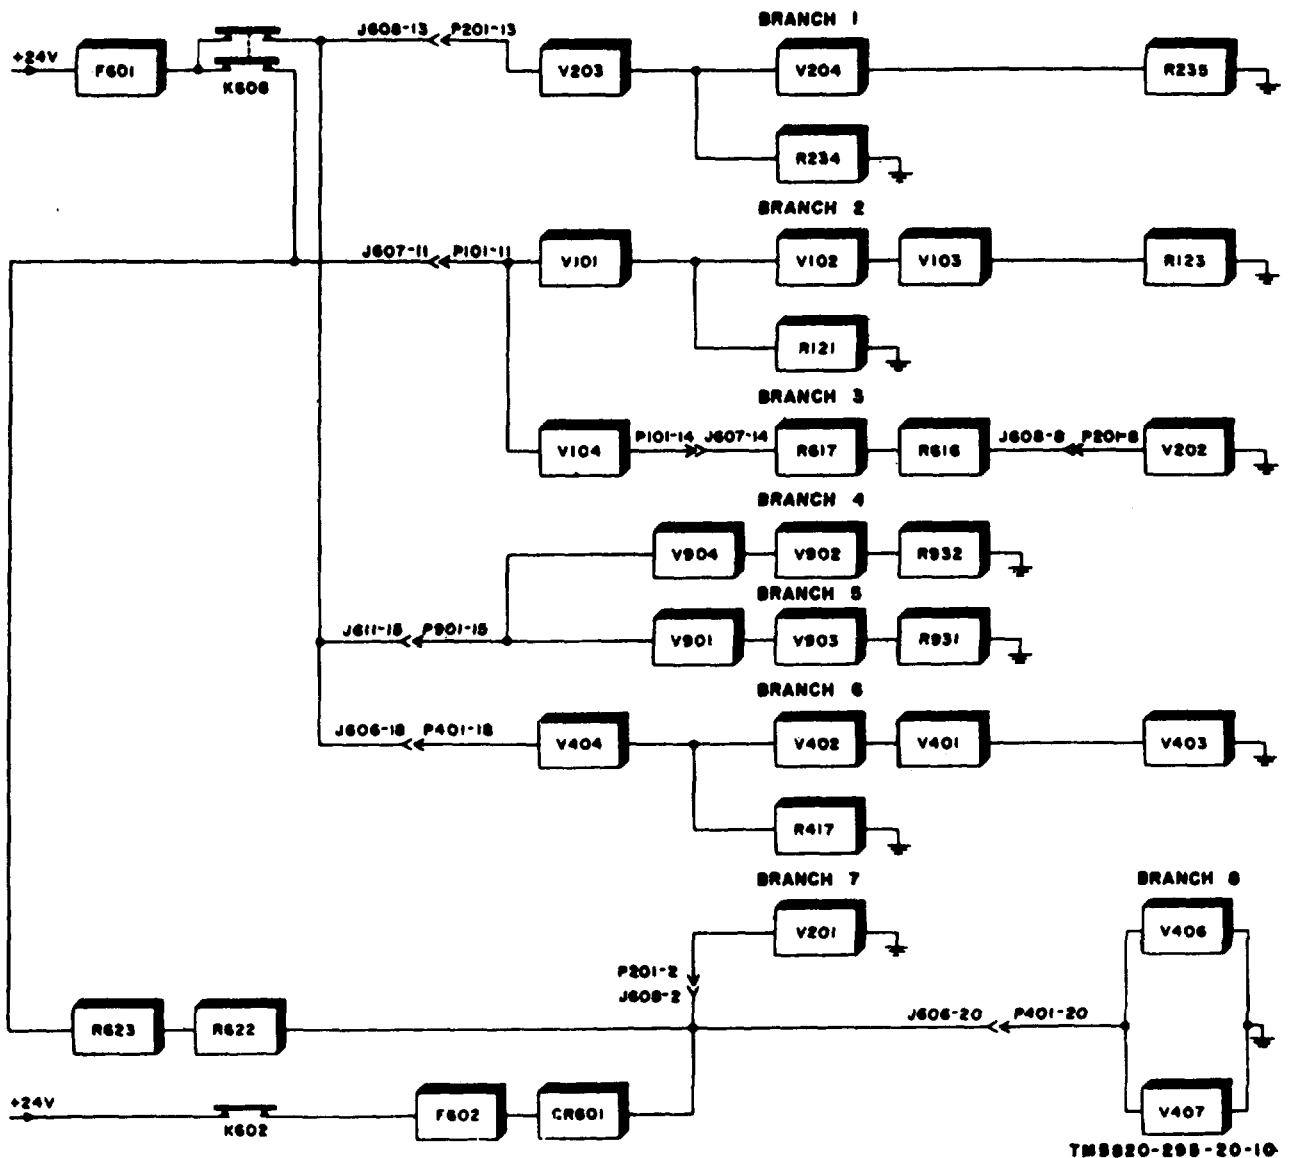

Figure 10. Filament circuits of transmitter, simplified block diagram.
e. *Transmitter Filament Circuits* (fig. 10). When visually inspecting the tubes for burned-out filaments, it may be discovered that more than one tube is not lighted. Eight main filament branches are fed from the 24-volt supply. If V208 is open, branch No. 1 will be entirely inoperative. If V204 is open, resistor R284 will limit the current through V208 making V203 inoperative, and R121 will limit the current through V101 if V102 or V108 is open. If V101, V102, or V108 is open, branch No. 2 will be inoperative. If V104 or V202 is open, branch No. 8 is inoperative. Branches No. 4 and No. 5 are similar series filament strings. The failure of either branch No. 4 or No. 5 does not make the other branch inoperative, but, if one